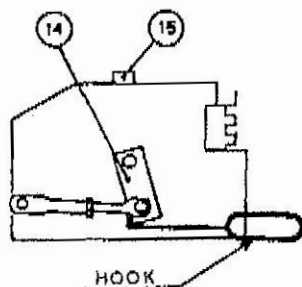
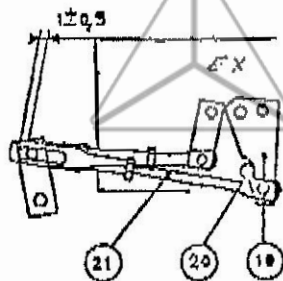

Fig. 13
Fig. 15
To test tripping of breaker by the release crank, place a wire hook as shown in Fig. 13 and hold while applying a momentary signal of 12-18 volts D.C. to the tripping actuator EX. When release unlatches, slowly allow release crank to withdraw until breaker trips open.
a) Adjustment. Insert wire hook as shown in Fig. 13 and hold release crank (14) while applying momentary signal of 9 - 18 volts DC to the tripping actuator EX. When release unlatches, slowly allow release crank to withdraw to tripped position shown in Fig. 15. With the release in the